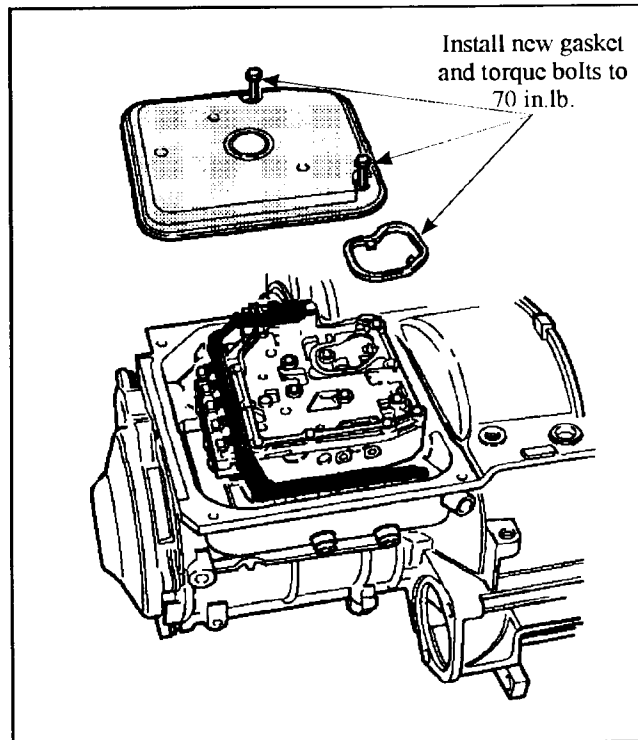

Figure 167
42. Install a new filter with a new gasket on the transmission valve body. Hand thread the 2 filter bolts and tighten to (70 in.lb.) (See Figure 167).